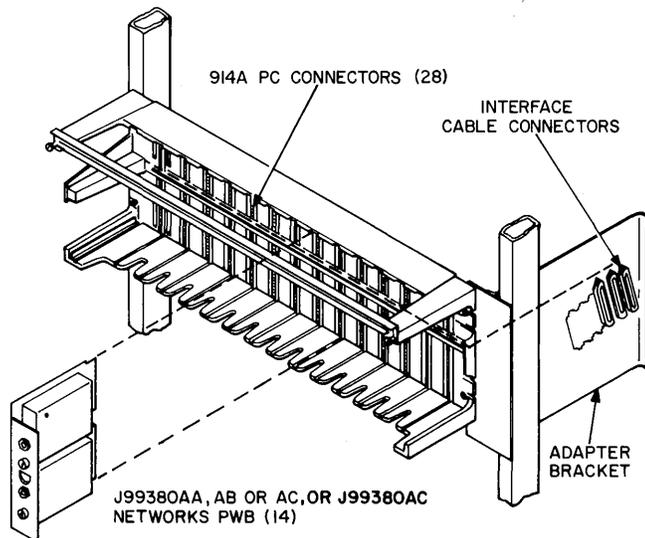

Fig. 12—J99380C Shelf Assembly
4.24 The J99380C shelf, Fig. 12, is a connectorized 600-type KTU shelf wired to accommodate the J99380AA, AB, and AC impedance compensator plug-in networks. This shelf, which is approximately 9 inches high, 9 inches deep, and 23 inches wide, will mount up to 14 plug-in units which will serve 28 circuits (two per plug-in unit).